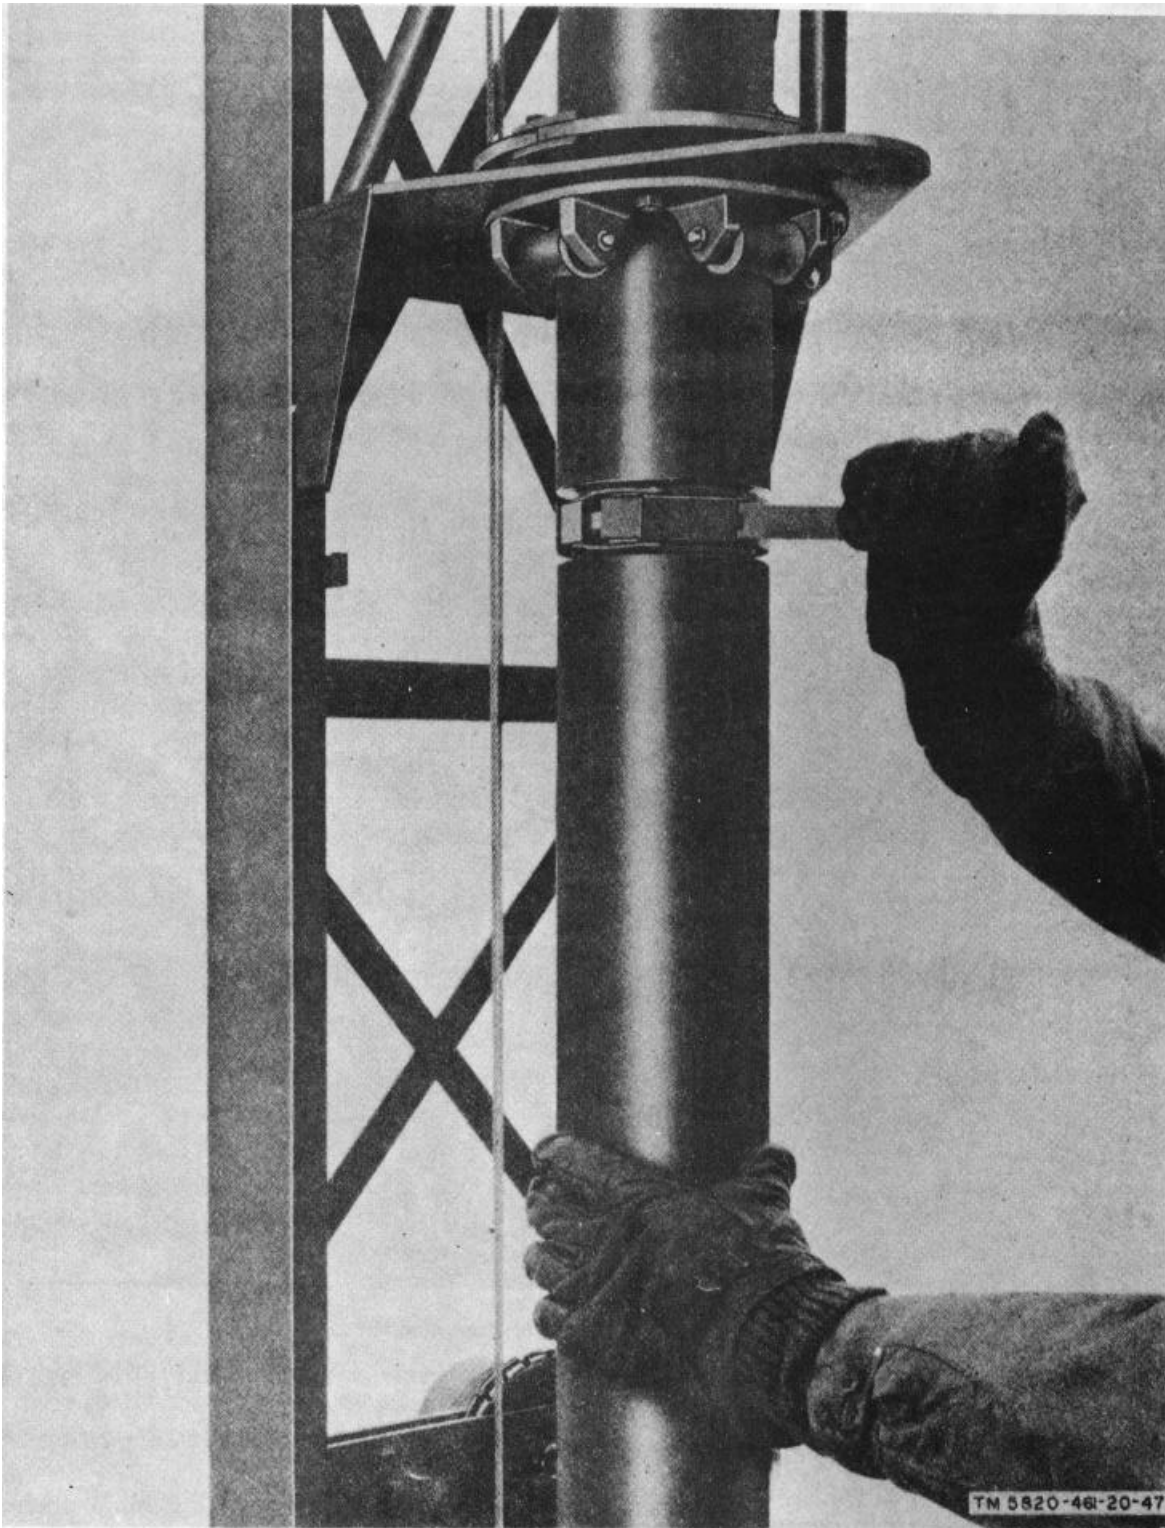

Figure 4-2. Unlocking mast section coupler.
- (4) Place the mast section carrier nearby so that the mast sections can be placed into it after their removal.
- (5) Release the handbrake, and operate the winch to lower the mast until the bottom of the elevator is about 5 inches from the bottom of the launcher. Lock the handbrake.
- (6) Unlock the mast section coupler with the mast section coupler tool (fig. 4-2), and remove the mast section coupler.
- (7) Operate the winch to lower the elevator to the base of the launcher.
- (8) Remove the mast section, clean it, and place it in the mast section carrier.
- (9) Operate the winch to raise the elevator to the bottom of the next mast section.
- (10) Repeat the procedures in (2) through (9) above to remove the remaining mast sections. Use the procedures in (11) below to remove the middle guy ring assemblies.